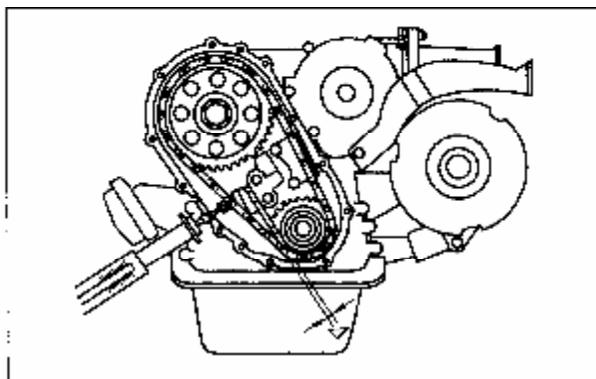

Figure 3-37 Check timing chain slackness
**3.4.2** Using a spring scales to pull the timing chain with a force of  $98 \text{N}$  (Figure 3-37). Measure the clearance “ $\Delta$ ” between chain tensioner plug and support, the value should not exceed  $13.5 \text{mm}$ . Otherwise replace with new timing chain and sprocket.